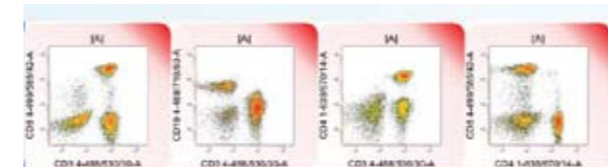

Figure 7. Dual Parameter Plots of Compensated Positive Control Using Compensation Beads Matrix
11. Verify values with positive control using compensation matrix. See fig 7. Use *V-log* to check for overcompensation.